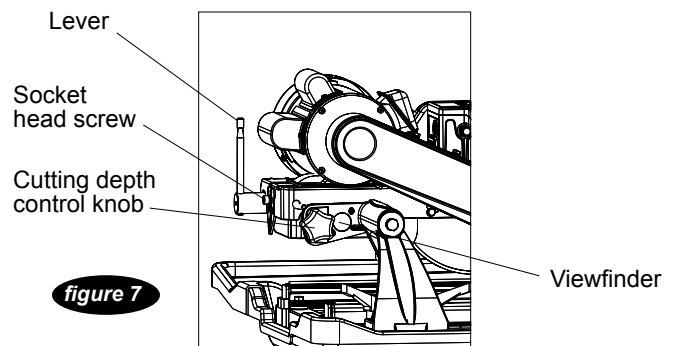

figure 7
1. The cutting head must be parallel with the table before it can be rolled to the miter position. To accomplish this, locate the viewfinder on the support post next to the cutting depth control knob. (see **figure 7**)
4. Loosen the lever and socket head screw located at the rear of the cutting head. (see **figure 7**) Turn socket head screw with provided hex key. Roll the head 45° and secure in place by tightening the lever and socket head screw.